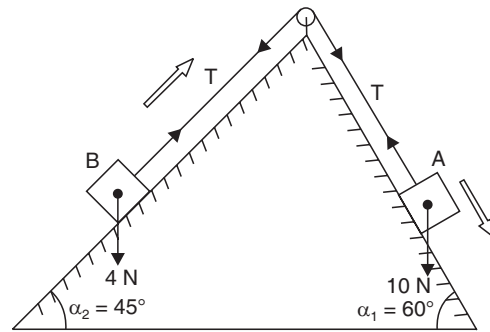

Fig. 8.20
**Example 8.26.** Blocks A and B weighing 10 N and 4 N respectively are connected by a weightless rope passing over a frictionless pulley and are placed on smooth inclined planes making  $60^\circ$  and  $45^\circ$  with the horizontal as shown in Fig. 8.20. Determine :
**Sol.** Refer to Fig. 8.20.